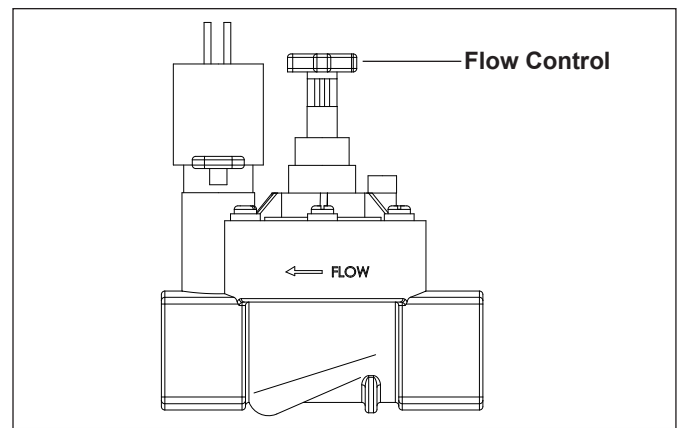

Figure 5. Valve Flow Controller
4. Turn the flow control knob (+) on the top of the valve (See Figure 5) to set the flow rate to your specifications. (The rate can be set up to 30 GPM.)